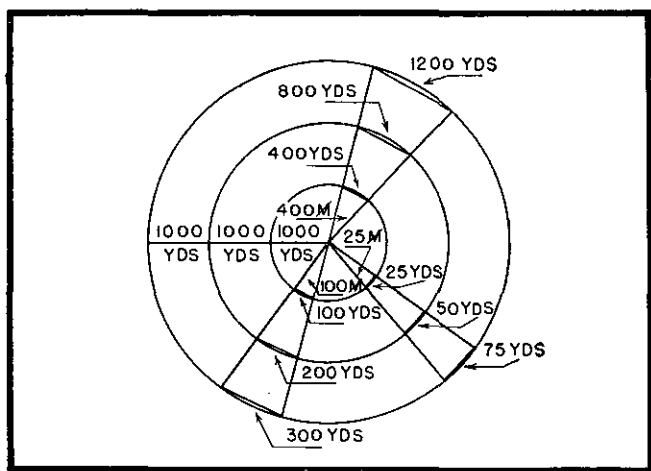

FIGURE 32.—Relation of mils to width (in yards) and distance (in 1000s). (Not drawn to scale.)
b. It is also true that 1 mil is subtended by 1 yard at a distance of 1,000 yards (fig. 32). That is—